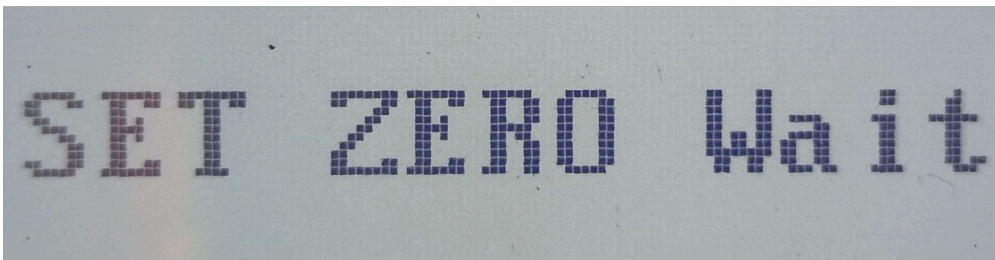

Figure 6.1 — SET ZERO Wait — procedure in progress, keep probes still and under pressure
4. The display shows the indication **SET ZERO Wait** (see *fig. 6.1*): keep the probes in the same position and with the same pressure until this screen remains visible.